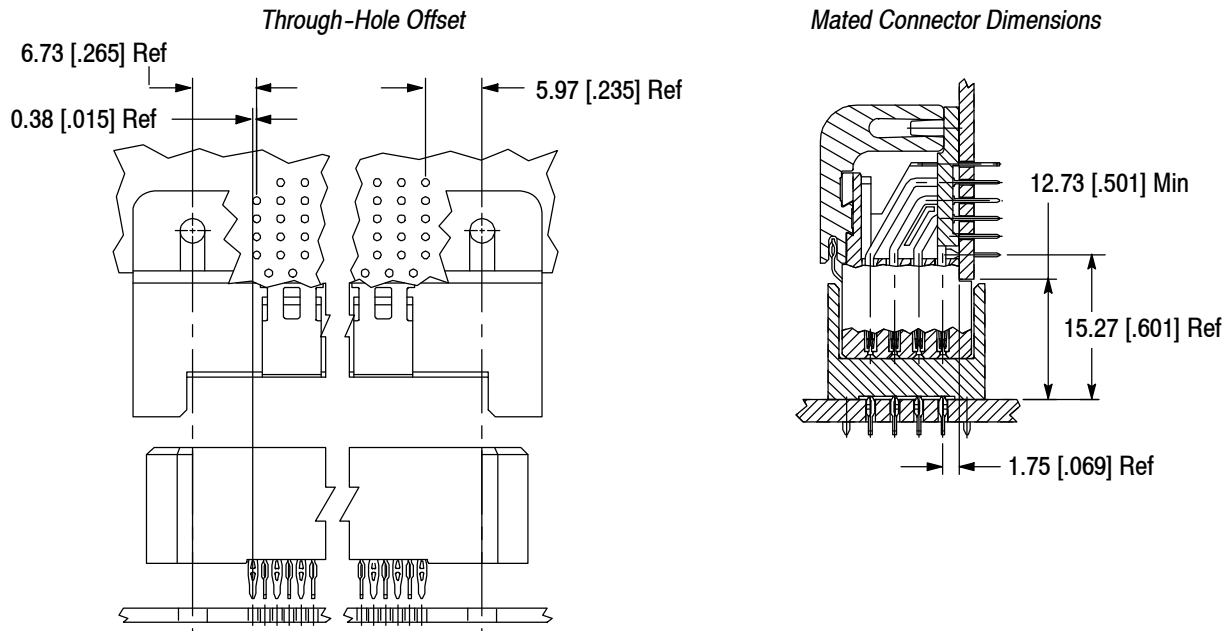

Figure 12
- (1.) See Figure 12 for hole offsets and mating alignment dimensions.
Figure 12 shows pc board pattern offsets and desired mated connector measurements.